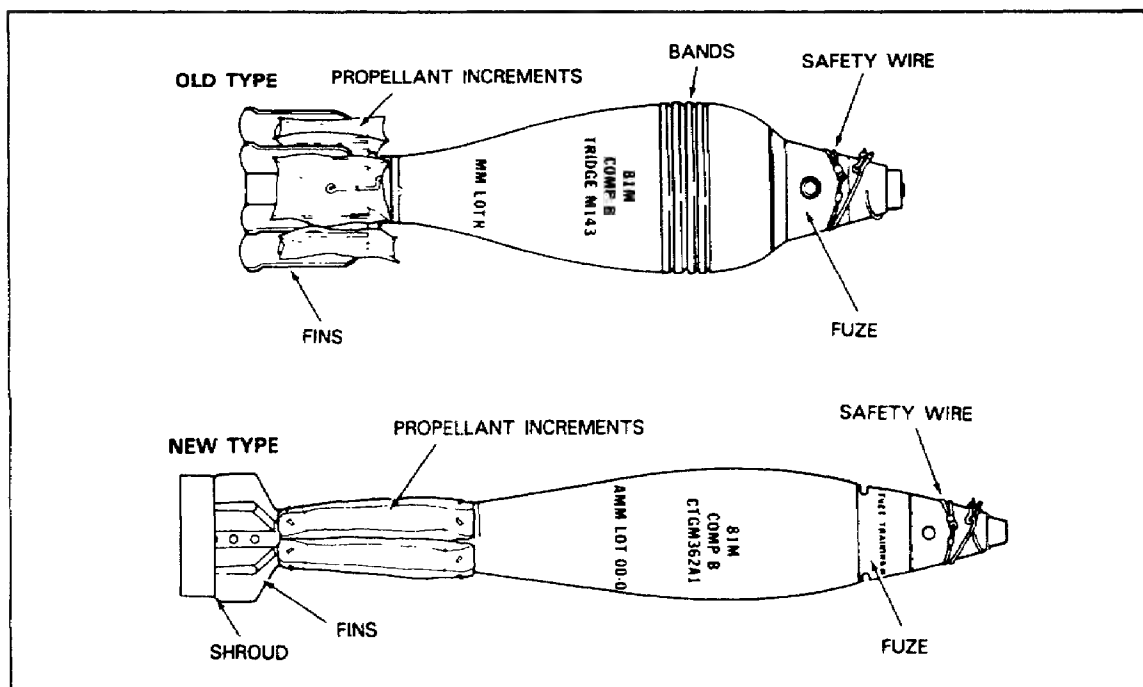

Figure 27. 81mm HE Mortar Cartridges.
**81mm HE Mortar Ammunition.** The 81mm HE mortar cartridge is found in two basic shapes, as shown in Figure 27. The cartridge at the top in the illustration is an old type HE round that is obsolete but may still be